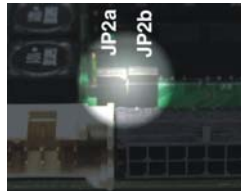

Figure 3-3 Jumpers JP2a/JP2b (closed)
2) Set jumpers JP2a and JP2b to “closed” position (→Figure 3-3):